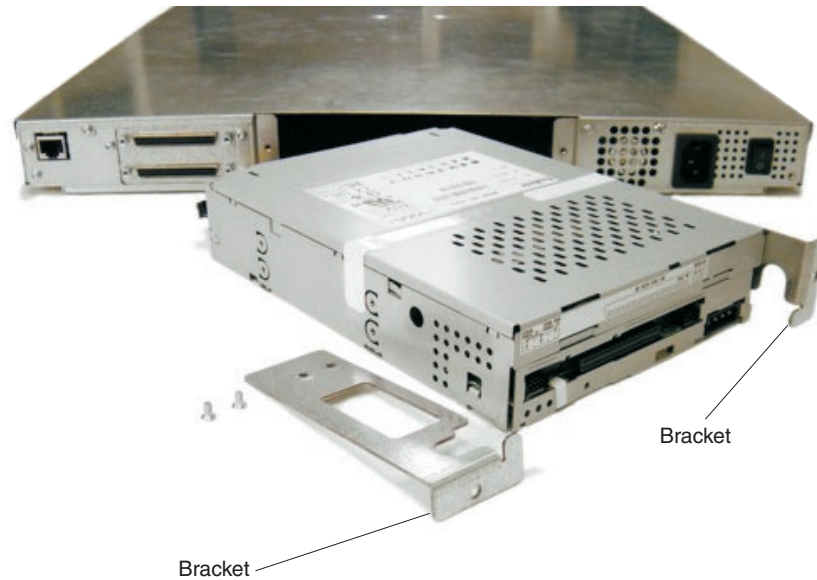

Figure 23. Removing the tape drive mounting brackets
- Using a #1 Phillips screwdriver, remove the two screws from each of the brackets that are attached to the tape drive (see Figure 23 on page 49). Save the brackets and screws. You will attach the brackets to the new tape drive.